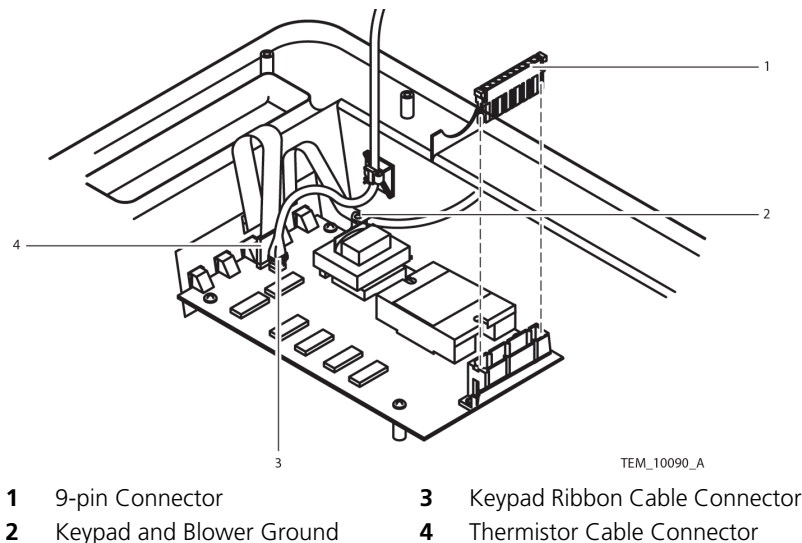

Figure 34. Control PCB Connections
2. Disconnect the 9-pin connector from the Control PCB (Figure 34, item 1).
3. Cut the cable tie securing the thermistor cable connector (Figure 34, item 4) to the Control PCBA.
5. Disconnect the ribbon cable (Figure 34, item 3).